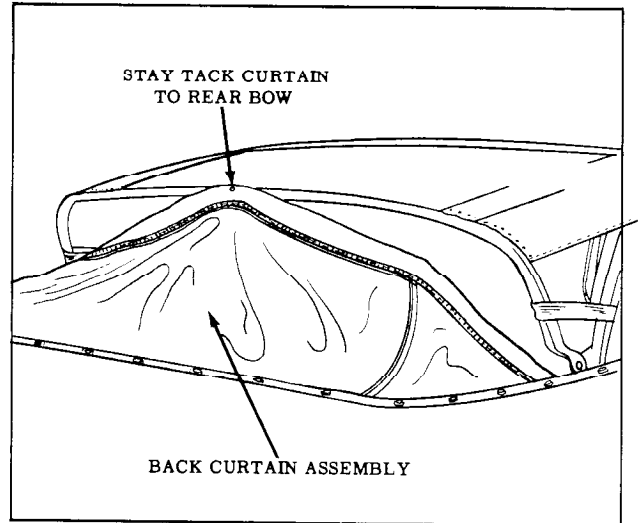

Fig. 17-33 Tacking Curtain at Rear Bow
16. Secure back curtain assembly with one tack to rear bow to prevent damage to plastic sheet. (Fig. 17-33)